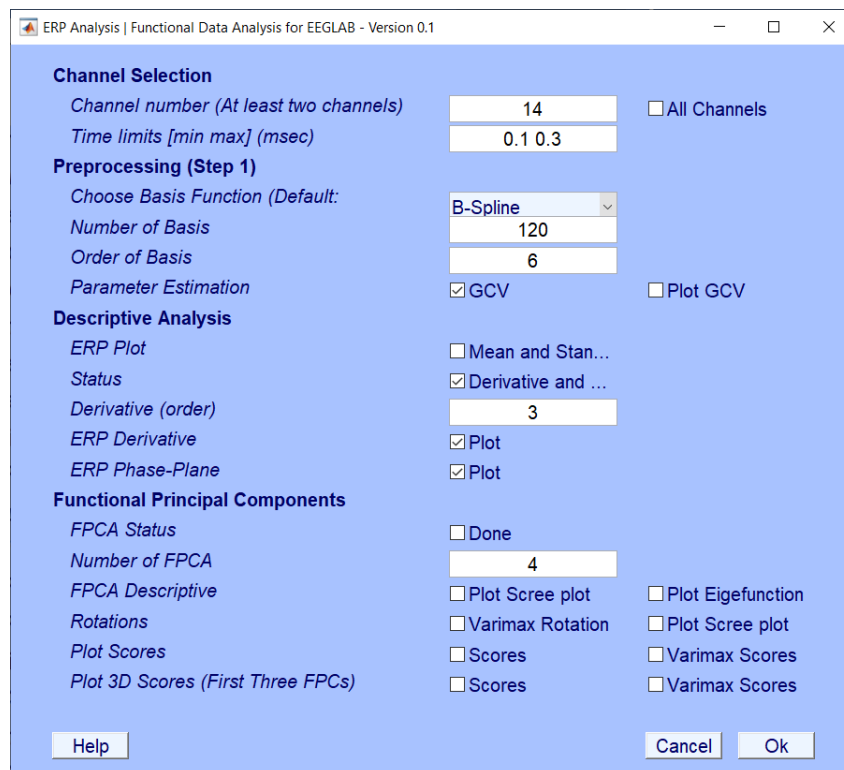

Figure 22- The derivative and phase-plane plot of two channels 14 and 18.
To get the results, we repeat the above steps twice, one time for channel 14 and another time for channel 18. (figure 22)
- 6- Click **Ok**. (figure 22)